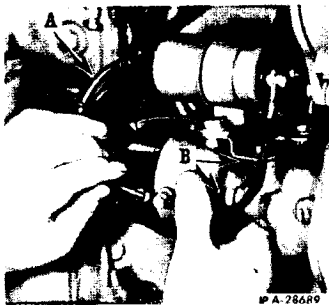

Fig. 18 - Advancing the Distributor While Holding Secondary Cable 1/16" to 1/8" from Primary Terminal.
1. Loosen the distributor mounting bolts (B, Fig. 18). Set the engine with the No. 1 piston on top-dead-center of the compression stroke. The timing pointer on the crankcase front cover will line up with notch "DC" on the fan drive pulley. The secondary cable should be assembled properly in the coil terminal.
2. Turn on the ignition switch and note if the ammeter shows discharge. If it shows discharge, the points are closed and retarding the distributor is not necessary. If the ammeter does not show discharge, retard the distributor by turning the body about 30° in the same direction as that of the cam rotation. Hold the free end of the secondary cable (A) within 1/16 to 1/8 inch from the distributor primary terminal. (See Fig. 18) Advance the distributor by turning the distributor body slowly in the direction opposite to the cam rotation until a spark occurs.